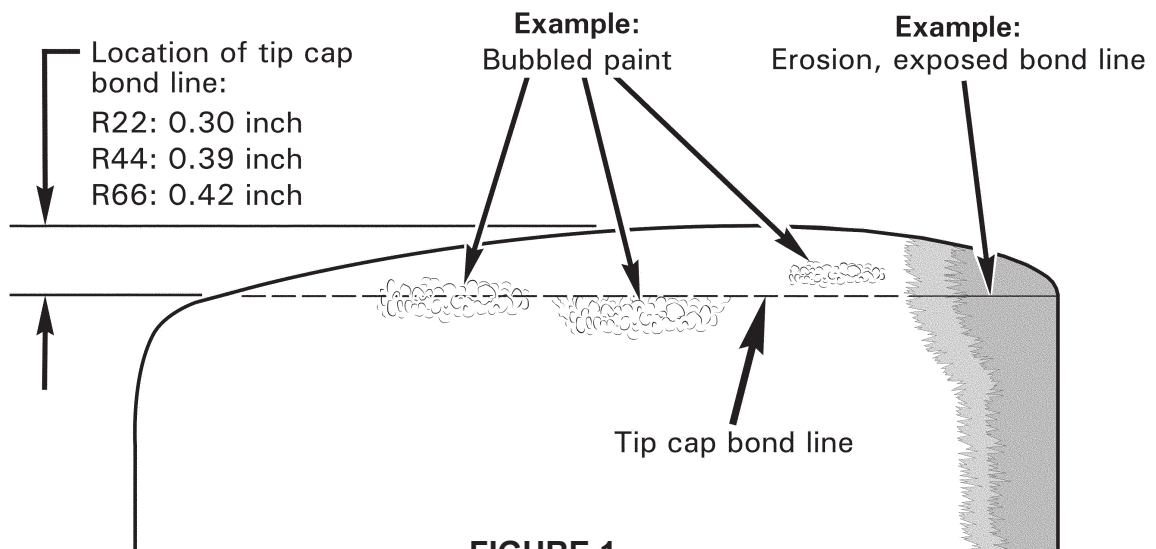

FIGURE 1
1. Inspect tail rotor blade leading edges & tip cap bond line carefully during daily preflight. Refer to Figure 1.